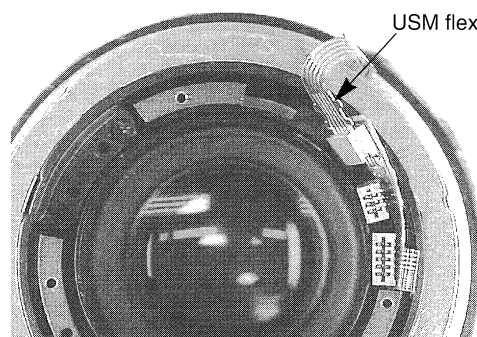

Fig. 3-9 Sub-flex Connection
1. Remove the focusing unit (1).
- Remove the sub-flex and main flex connectors. (See Figs. 3-9 and 3-10.)